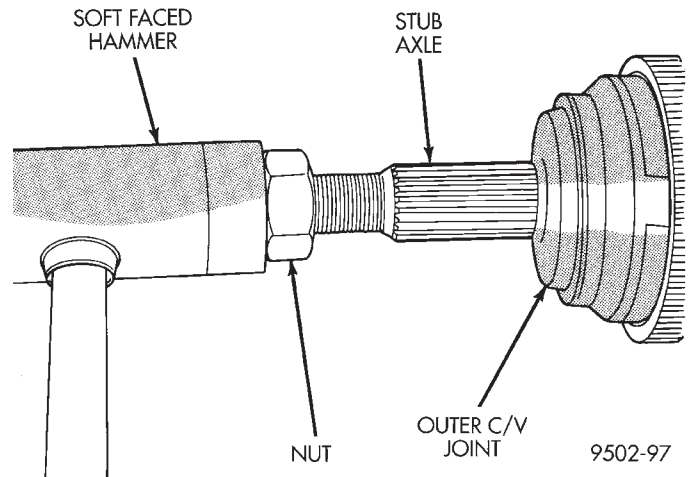

Fig. 45 Outer C/V Joint Installation on Interconnecting Shaft
(2) Align splines on interconnecting shaft with splines on cross of outer C/V joint assembly and start outer C/V joint onto interconnecting shaft.
(3) Install outer C/V joint assembly onto interconnecting shaft by using a **soft-faced** hammer and tapping end of stub axle (with nut installed) until outer C/V joint is fully seated on interconnecting shaft (Fig. 45).